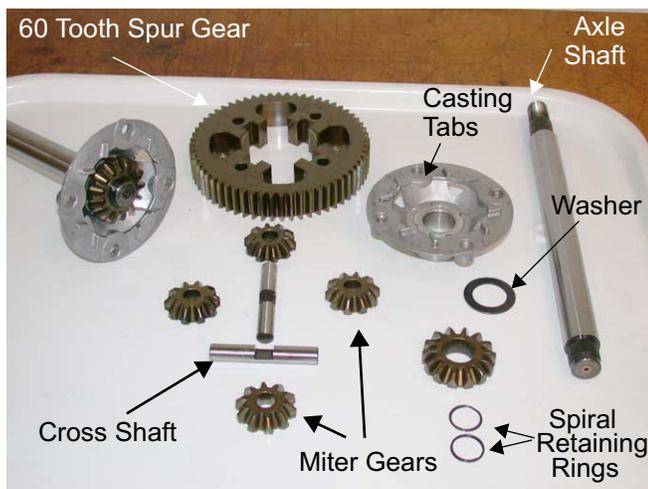

Figure 8.41
- 8.41. Remove the cross shaft and miter gears and inspect. See Figure 8.41.